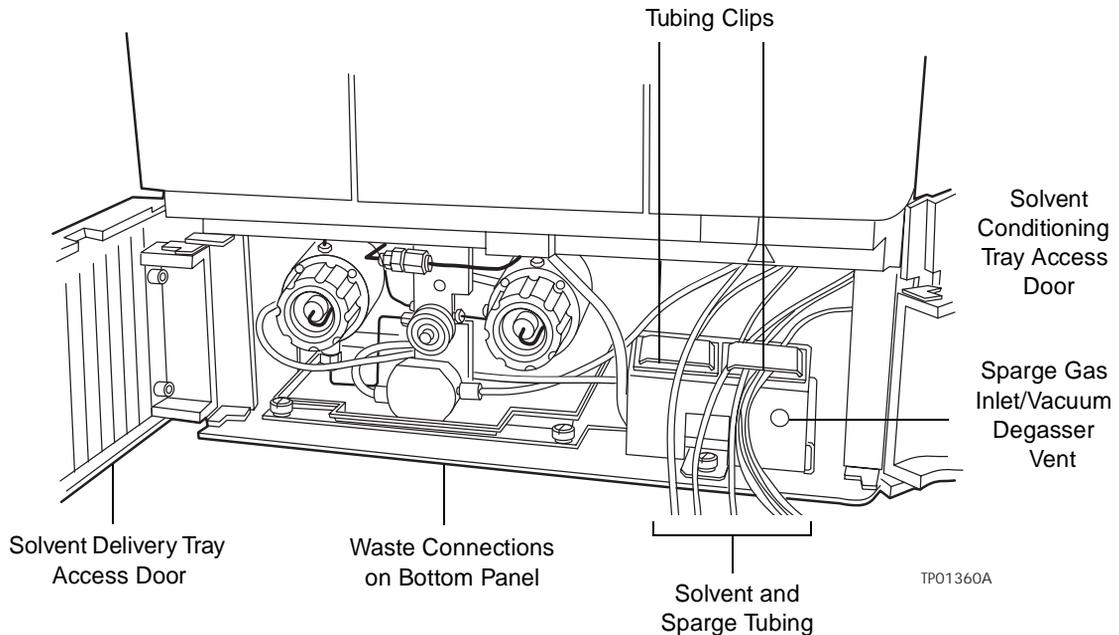

Figure 2-5 Fluidic Connections in the Separations Module
Figure 2-5 shows the locations of the solvent and sparge tubing, the connections for sparge gas, and the waste connections.
1. Uncoil the sparge and solvent lines stored behind the solvent conditioning tray access door, as shown in Figure 2-5.
The tubing from the Separations Module to the solvent reservoirs is stored behind the solvent conditioning tray access door on the front panel (see Figure 2-5). One end of the solvent tubing is connected (at the factory) to either the:
The spill tray waste outlet is located under the front panel of the Separations Module, below the solvent conditioning tray access door (Figure 2-5).
The tubing for the needle wash and plunger seal wash reservoirs is located behind the solvent conditioning tray access door on the front panel (see Figure 2-5). Each wash line is marked with a label and/or is color-coded. Table 2-8 lists the color code and size of each line. The plunger seal wash inlet line is labeled “Pump Wash In,” and has a diffuser attached to one end.